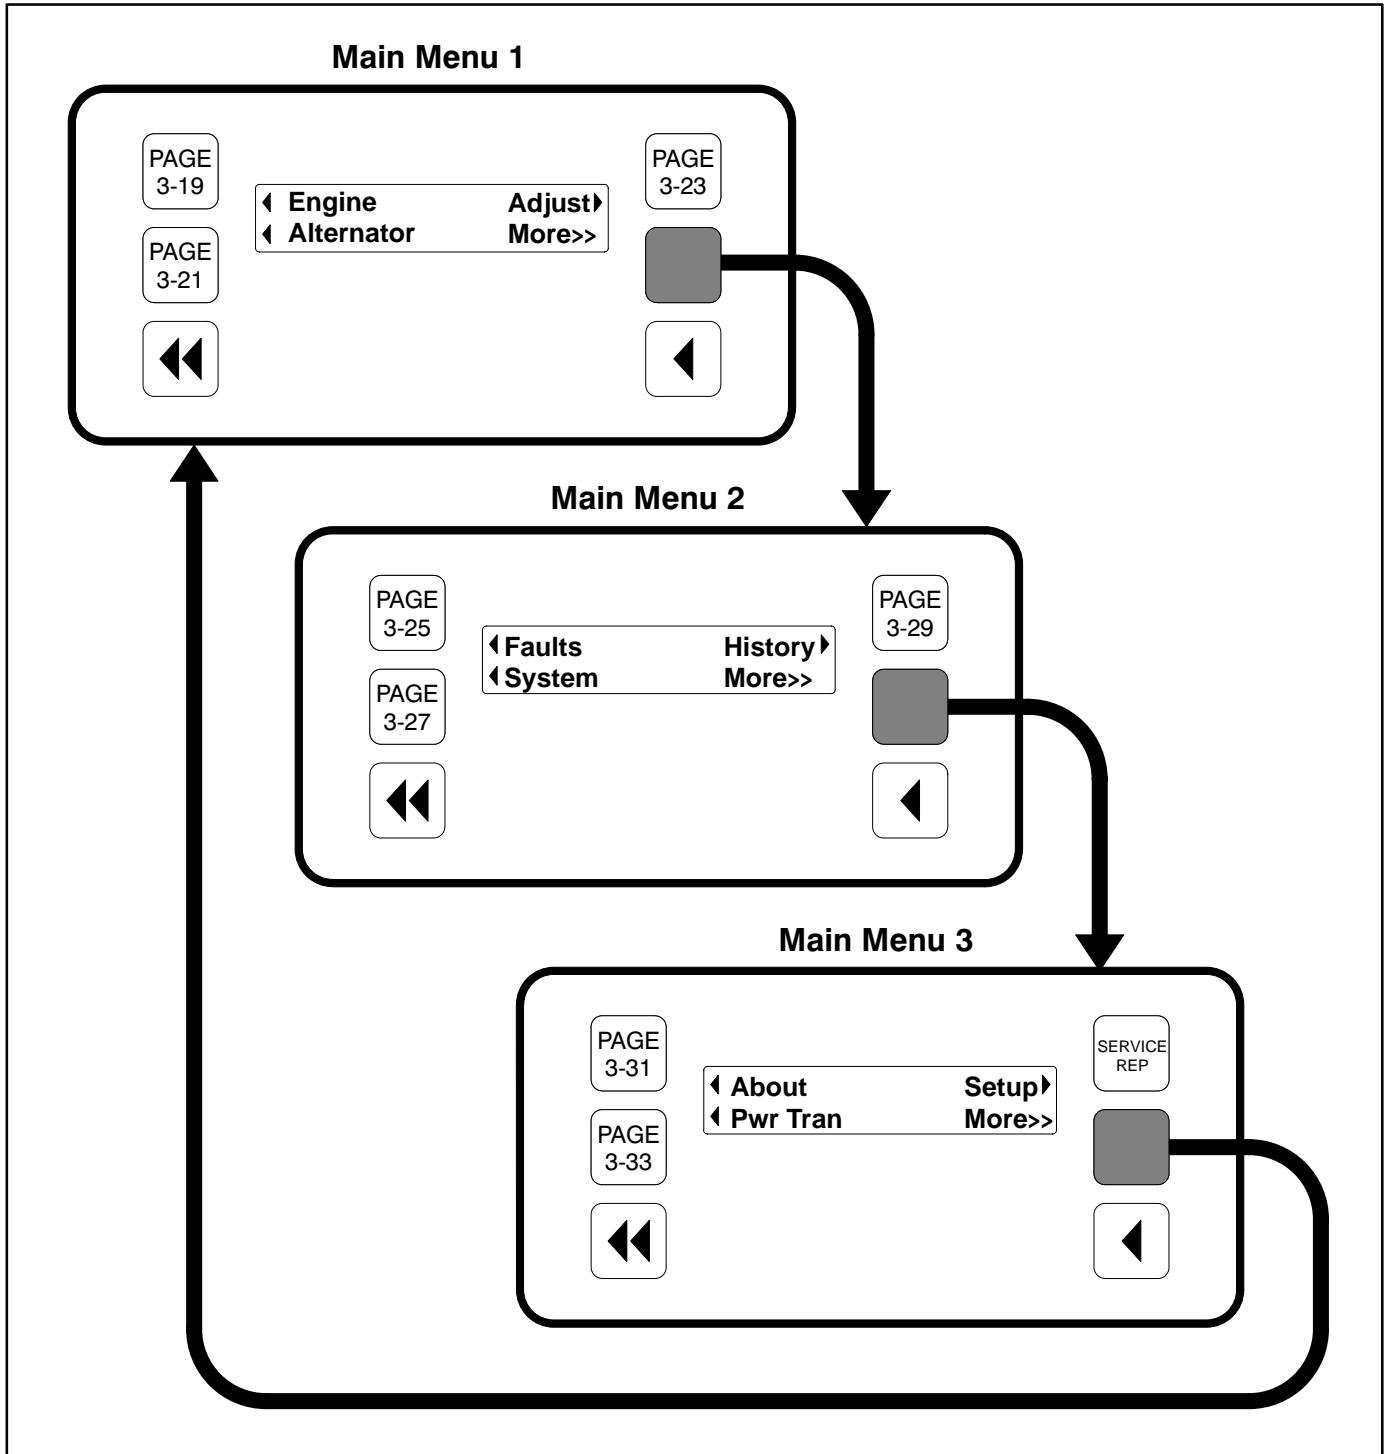
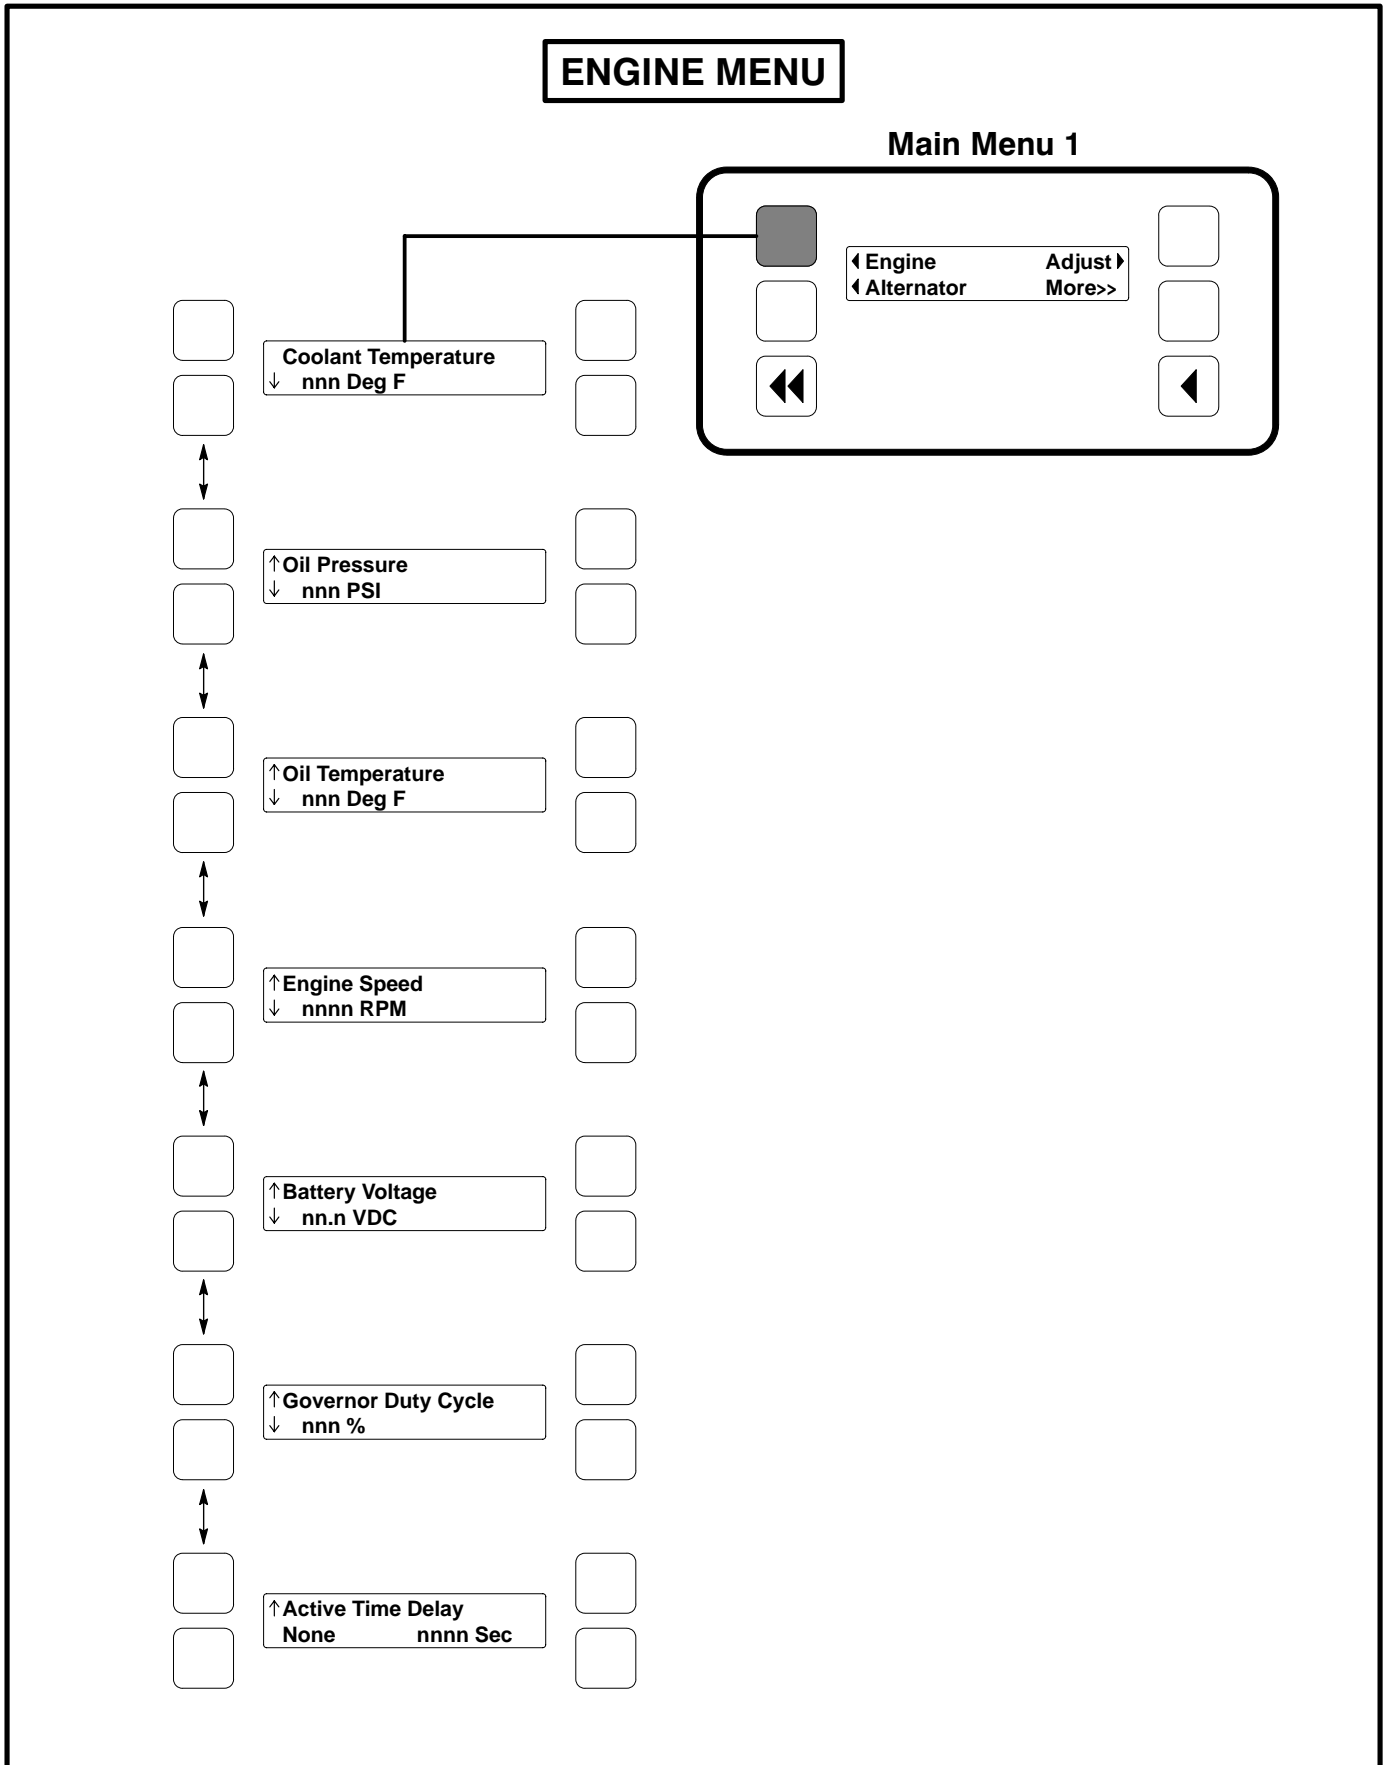

FIGURE 3-6. MAIN MENUS
FIGURE 3-9. ENGINE MENU
- In the digital display for main menus (Figure 3-6), the ◀ and ▶ symbols indicate that pressing the adjacent button causes the operating program to go to the selected submenu (e.g., Engine Menu in Figure 3-9).
- In the digital display, the More>> symbol indicates that pressing the adjacent button causes the operating program to go to the next main menu, as shown in Figure 3-6.
**Home Button:** Pressing this button causes the operating system to show Main Menu 1 (Figure 3-6) in the digital display.
Figure 3-6 shows the three major main menus available to the user. Figure 3-6 also includes references to pages in this section where you can find additional information on submenus. When viewing a submenu, you can press the previous main menu button at any time to view its main menu.
Figure 3-9 shows a block representation of the Engine menu. If you press the button next to the word “Engine” in the display, the first Engine submenu is displayed.